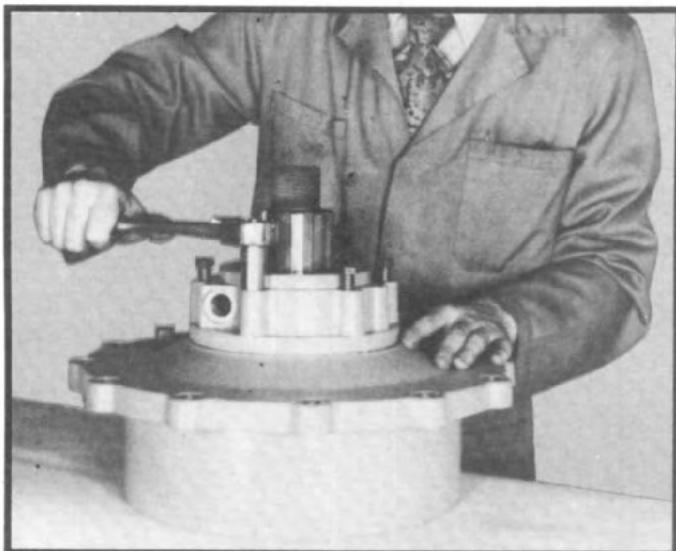

Fig. 62
3.5 Remove six capscrews holding seal carrier to planetary carrier cap. Tap seal carrier to loosen and remove. (See fig. 62.) If the seal is to be replaced remove the seal from the seal carrier. Removal procedure will damage the seal and removal should not be attempted unless replacement of the seal is planned.